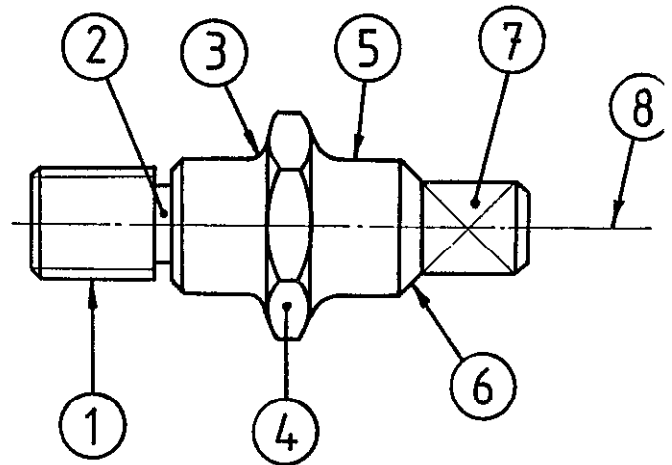

FIG. 6
- (c) Fig. 6 shows a drawing of a machine shaft with various numbered parts depicted using conventional symbols. Copy the chart shown below on your answer sheet and identify each part by inserting the appropriate number in the left hand column.